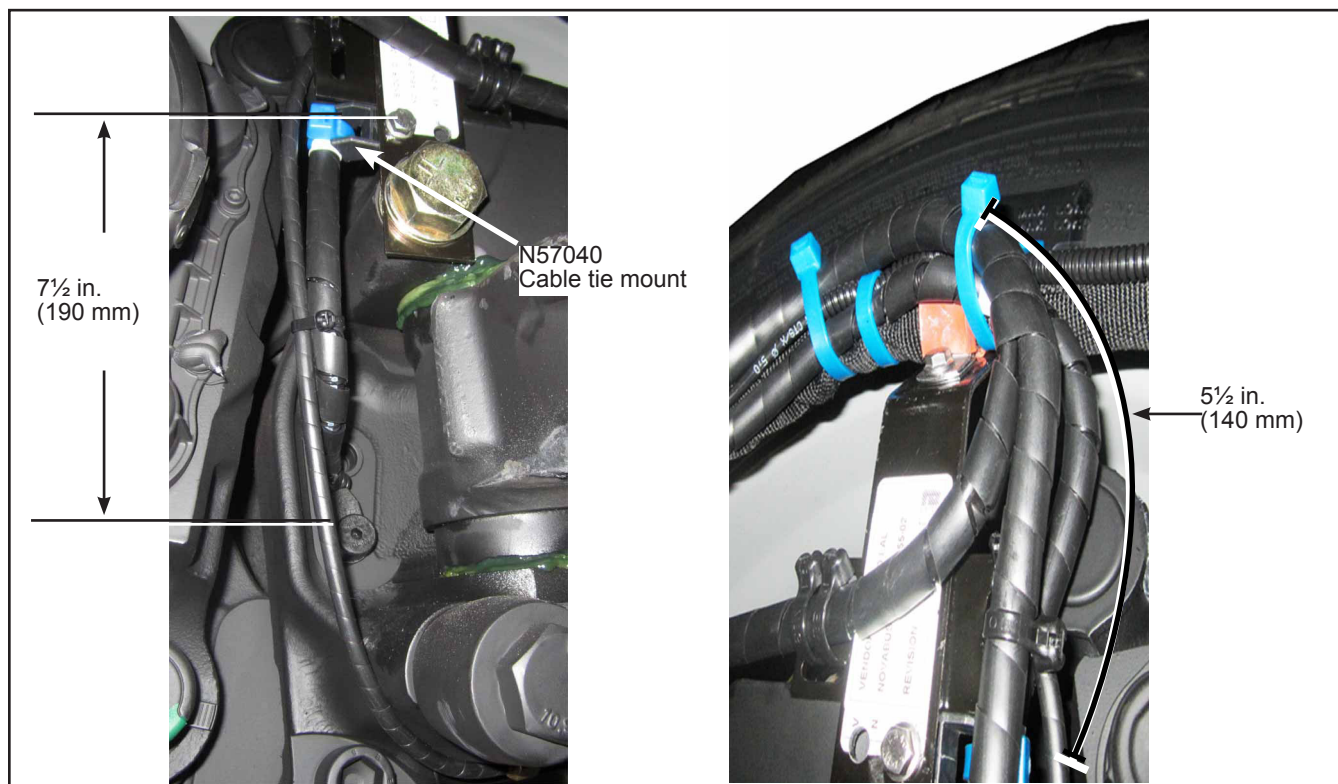

Figure 15 - Fastening of Harness With Tie Wraps
- 2.19. Affix the electrical harness to the N57040 cable tie mount with tie wraps at the indicated locations shown in Figure 15.
- 2.20. Affix the electrical harness to the brake hose using tie wraps, as shown in Figures 15 and 16. Distance between tie-wraps is typical. If necessary, install additional tie wraps.